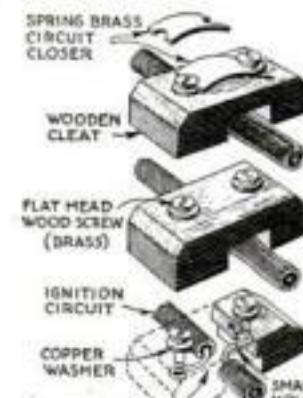

Fig. 4. The particular merit of this secret switch is that it need not be hidden from view. It does not look like a part
**T**HE value of any secret ignition switch depends on how cleverly it is concealed. The switch shown in Fig. 4 is so constructed that it doesn't look like a switch and can be placed in plain sight if necessary. No one would suspect the wire cleat of harboring a concealed break in the wiring. The cleat can be cut from any